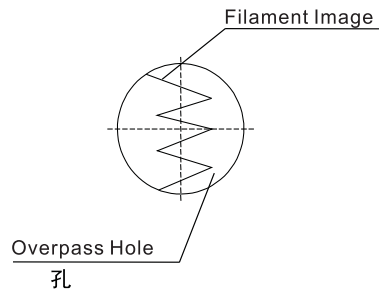

Figure 7
c) This paper will allow for focusing of the lamp filament on it. If the filament image is not centered in the overpass hole, reduce the aperture diaphragm, adjust the light bulb transverse and vertical adjustment to obtain a uniform image. Adjust the focusing lens lever until a sharp image of the lamp filament is attained, refer to figure 7 for this step.